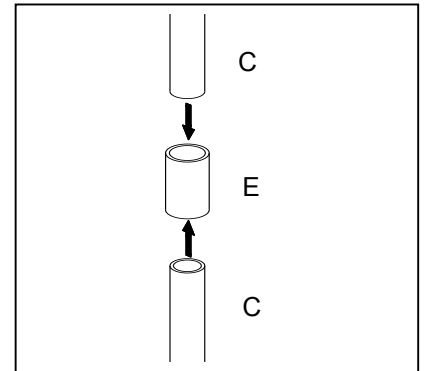

Fig. 1
1. To use the coupler, connect the two extension tubes with the coupler, then skip to step 4. Fig. 1